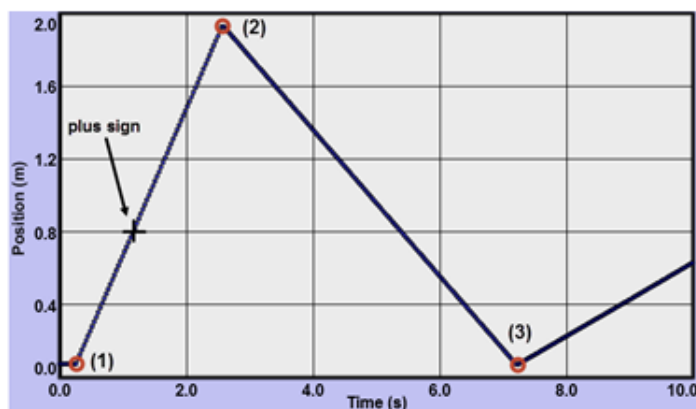

Figure 4a: (x - t)
- 2 Once you have a good run, **Copy Data to Clipboard**, and use Ctrl+V to create an x - t graph with Grapher. You should have something shaped like Figure 4a, but it might be shifted to the right or left.